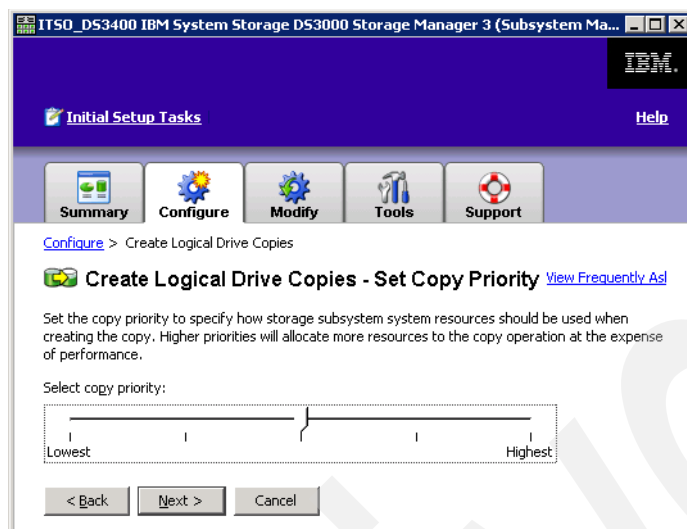

Figure 9-76 VolumeCopy - Set Copy Priority
- Set the priority of the VolumeCopy (Figure 9-76) using the sliding scale. The priority represents a balance between I/O activity and the VolumeCopy operation. The lowest priority rate supports I/O activity, but the VolumeCopy will take longer. The highest priority rate supports the VolumeCopy, but I/O activity might be affected.